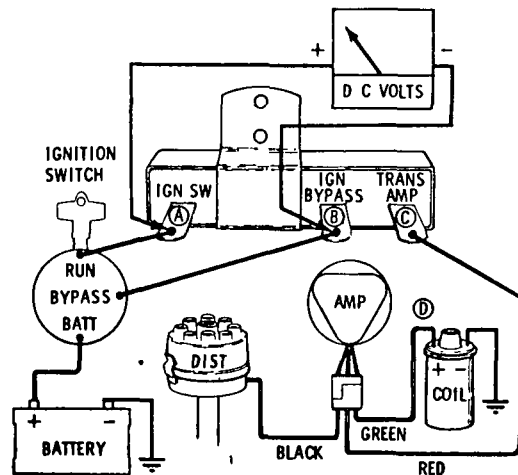

Figure 3
1. Refer to Figure 3. With ignition "ON", engine not running, and the distributor breaker points "OPEN", the voltmeter should read 0 volts.